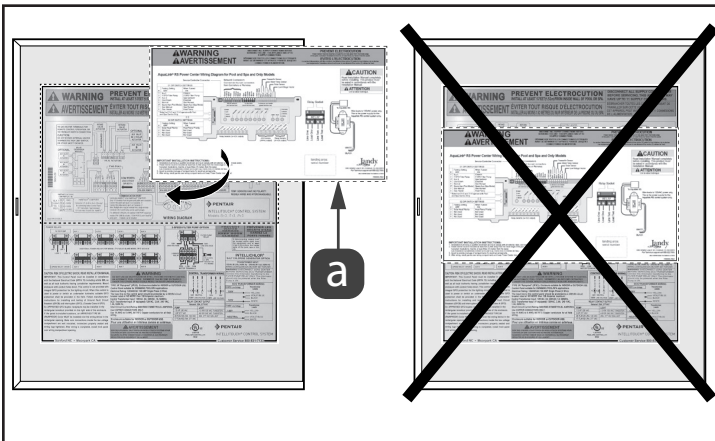

Figure 12. Warning Label
- 1. Place AquaLink RS Conversion wiring diagram label over existing Pentair® wiring diagram on the inside of the enclosure door. DO NOT COVER EXISTING PENTAIR WARNINGS OR RATING INFORMATION, see Figure 12(a).